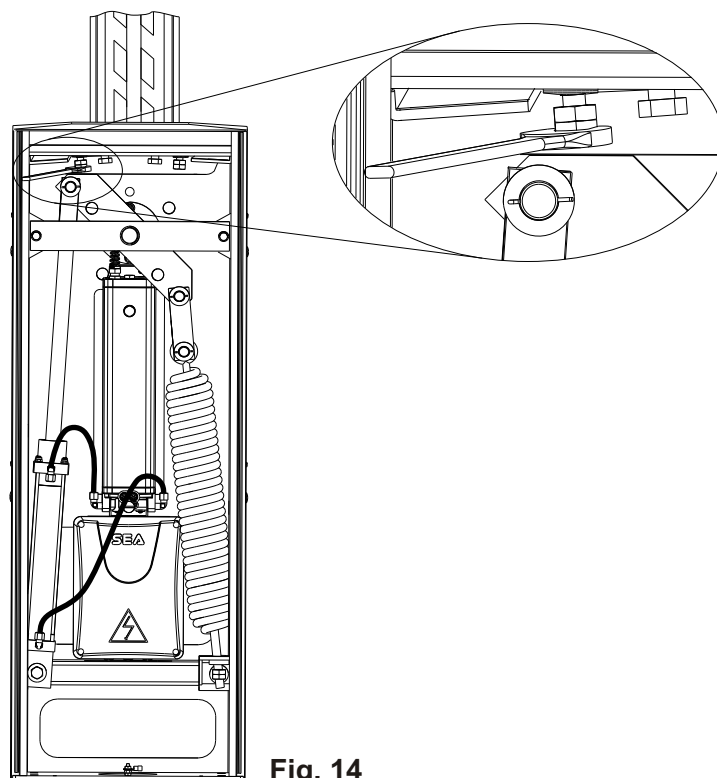

Fig. 14
- Release the end stroke screws unscrewing the lock nuts on the limit switch (Fig. 14).
- Screw or unscrew the end stroke screws so that the beam stays in perfectly vertical position in opening and in perfectly horizontal position in closing (Fig. 14).